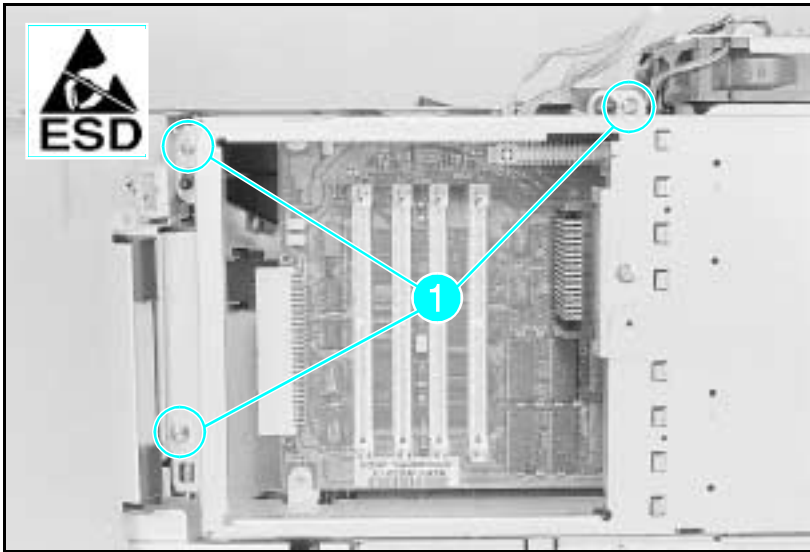
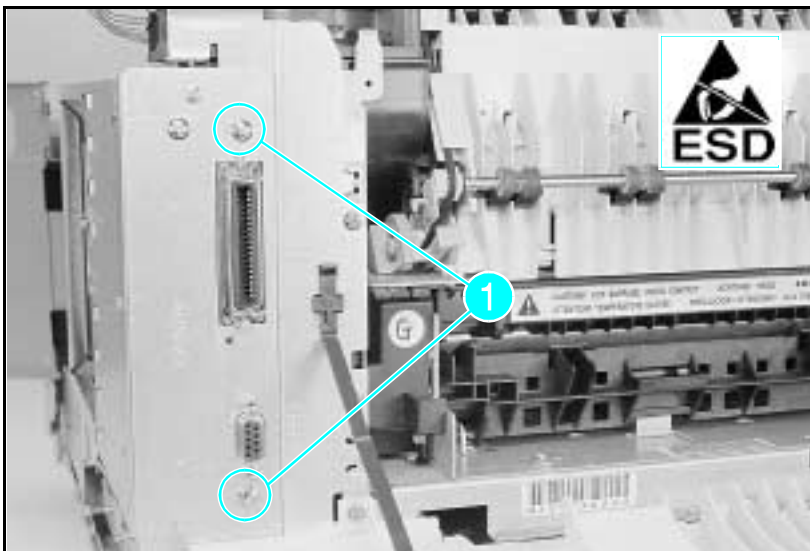

Figure 6-24b Formatter Cage Screws (Right Side View - LaserJet 4 Plus)
Figure 6-24c Formatter Cage Screws (Rear View - LaserJet 4 Plus)
LaserJet 4 Plus: Remove the (3) screws shown in Figure 6-24b (one screw is located behind the SIMM door), and the (2) screws on the right rear of the printer (shown in Figure 6-24c).